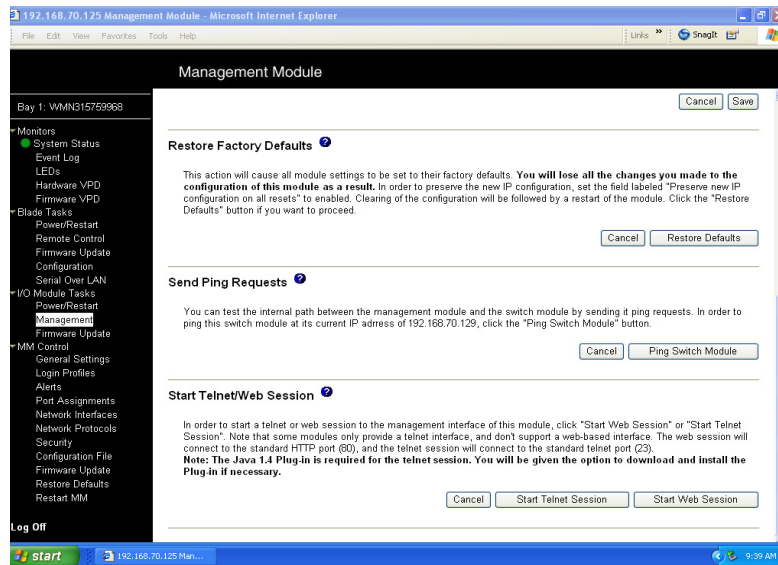

Figure 27. Switch Management window - advanced
- Scroll down and click **Advanced Switch Management**. A window similar to the one in Figure 27 opens.